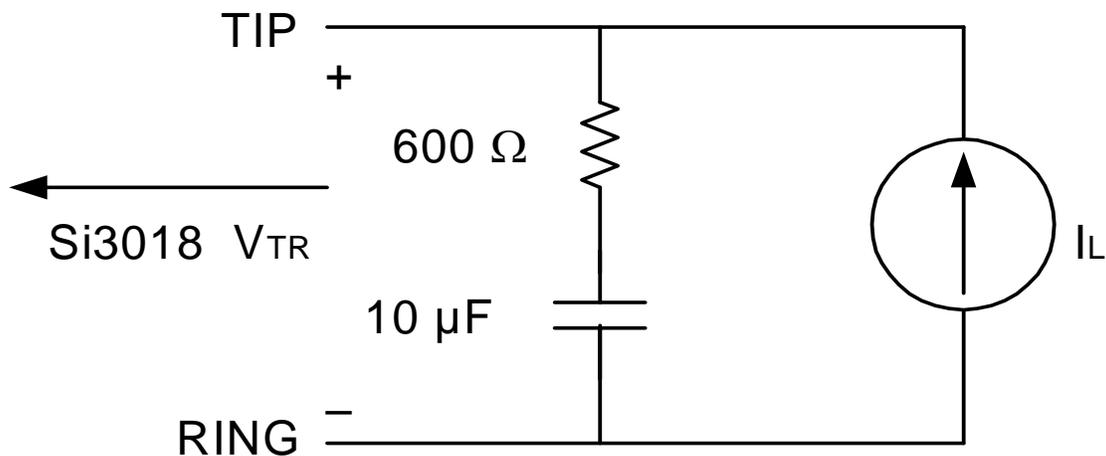

Figure 10. Phone Line Termination Circuit
&T3	Initiate ITU-T V.54 (ANALOO) test. Modem mode set by &H. Test loop is through the DSP (Si2493/57/34/15/04), DAA interface section (Si2493/57/34/15/04), ISOcap™ interface (Si3018/10), and analog hybrid circuit (Si3018/10). ISOModem echoes data from TX pin (Register 0 in parallel mode) back to RX pin (Register 0 in parallel mode). Phone line termination required as in Figure 10. In order to test only the ISOcap link operation, the hybrid and AFE codec can be removed from the test loop by setting U62[1] (DL) = 1.